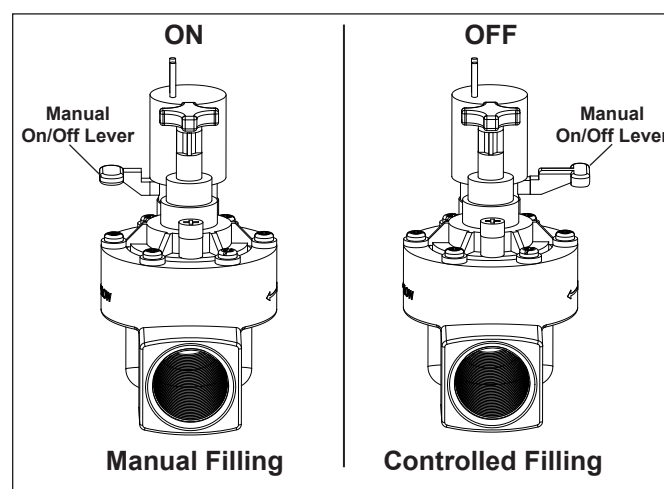

Figure 6. Manual Valve Lever
5. Put the manual ON/OFF lever, located just below the solenoid, in the OFF position, so it can only be opened with the electronic water Levolor. See Figure 6.